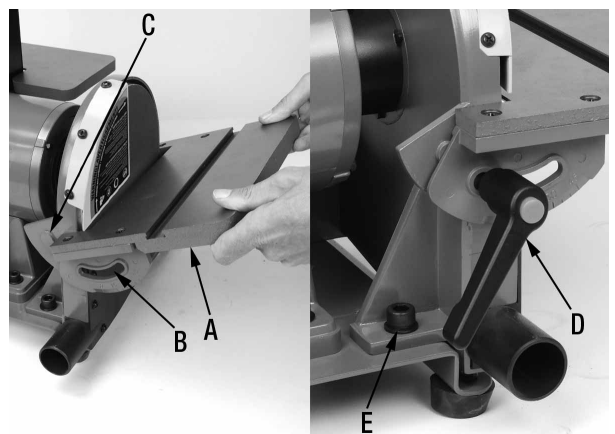

Figure 6
1. Position the sanding disc table (A) Fig.6 at an angle as shown, and slide the table on so that the trunnion slots (B) slide and fit over the raised tracks (C) on the disc guard.
2. Secure the sanding disc table (A) Fig.6 using two washers and lock handles (D) on each side of the table.
3. The gap between the sanding disc table and the sanding disc should be a maximum of 1/16". If the gap is larger than 1/16", loosen the two cap screws (E) which secure the disc guard, slide the disc guard to achieve the proper gap and retighten cap screws (E).